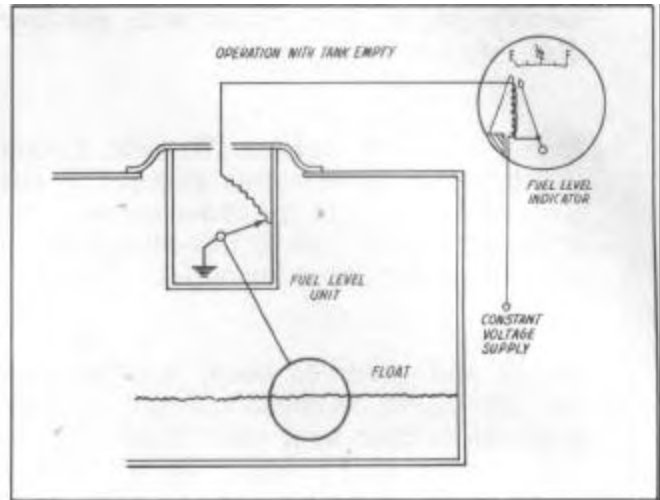
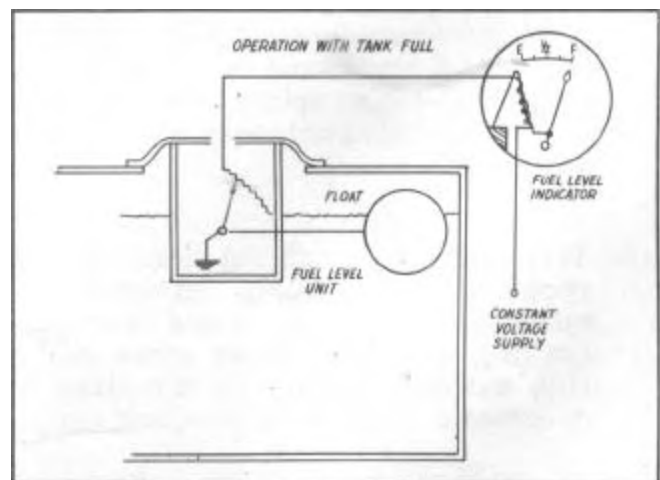

FIGURE 108
FIGURE 109
With the tank empty, the float holds the slide rheostat (variable resistance) at maximum resistance causing the gauge to read empty (E), Figure 108.
With the tank full, the slide rheostat is moved to the minimum resistance point causing the gauge to read full (F) with the ignition switch on. The use of a bimetal in the fuel indicator provides stability of reading and eliminates pointer fluctuation incidental to surging in the tank and the float bobbing on the surface of the fuel, Figure 109.
If there is any question about the tank level unit being O.K., hook the tank unit up in series with a panel indicator and a constant voltage regulator known to be O.K. and a 6-volt battery, operate tank level unit by hand and see if panel indicator reads empty (E) with tank level unit float in bottom position, Figure 108, and read full (F) with level unit float in top position, Figure 109. If the panel indicator and lead wire function properly with a new O.K. tank unit, but did not function properly with the original unit, replace original unit.